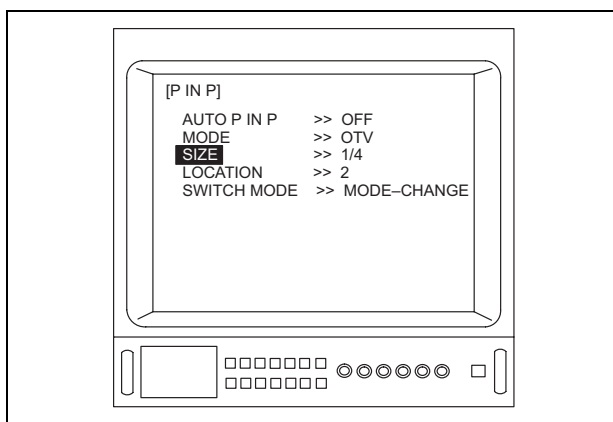

Figure 5.123
7. Depress the menu switch “←” or the “Enter” key on the keyboard to adjust the “SIZE” (see Figure 5.123).